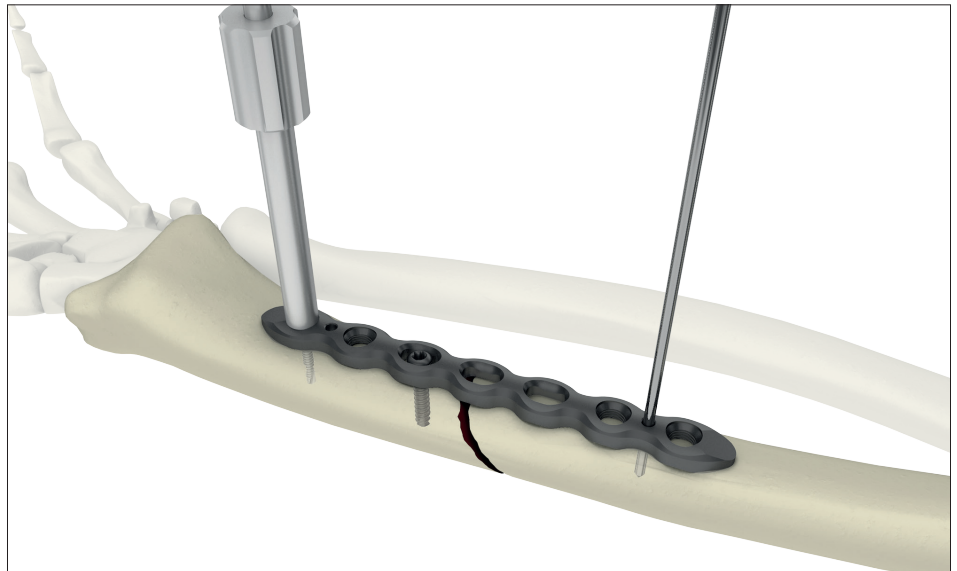

Fig. 1
The plate is centered over the fracture site. Temporary plate fixation can be performed using a 2.0mm K-wire through the K-wire holes in the plate. Alternatively, the temporary plate fixator pin (ref 705019-1) may be inserted bi-cortically through one of the shaft holes (fig. 1). The sleeve (ref 705019) is then applied over the pin and threaded to push the plate to the bone. A neutral non-locking screw is placed in the plate using the appropriate drill guide, drill, and screwdriver. This can either be in an oblong hole or a universal hole.